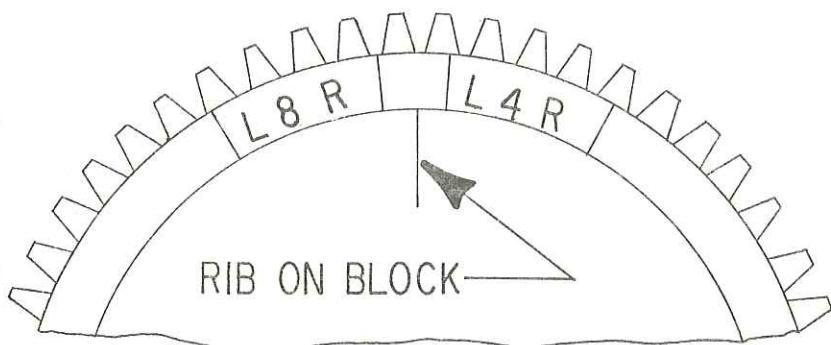

Figure 6-2. Timing Marks - 4 cyl. 1200 Series
(1) Remove a spark plug from No. 1 cylinder and place a thumb over the spark plug hole. Rotate the crankshaft in direction of normal rotation until the compression stroke is reached, this is indicated by a positive pressure inside the cylinder tending to push the thumb off the spark plug hole. Continue rotating the crankshaft until the advance timing mark on the front face of the starter ring gear is in alignment with the small hole located at the two o'clock position on the front face of the starter housing. (Ring gear may be marked at 20° and 25°. Consult specifications for correct timing mark for your installation.) At this point, the engine is ready for assembly of the magnetos.
(2) *Bendix magnetos* - Remove the inspection plugs from both magnetos and turn the drive shaft in direction of normal rotation until (-20 and -200 series) the first painted chamfered tooth on the distributor gear is aligned in the center of the inspection window (-1200 series) the applicable timing mark on the distributor gear is approximately aligned with the mark on the distributor block. See figure 6-2. Being sure the gear does not move from this position, install gaskets and magnetos on the engine. Note that an adapter is used with all magnetos. Secure with (clamps on -1200 series) washers and nuts; tighten only finger tight.